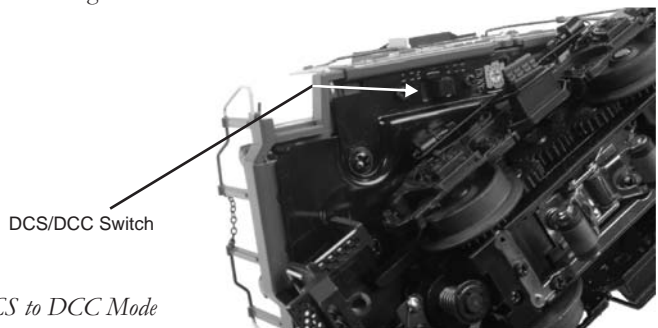

Figure 4: Changing from DCS to DCC Mode
****NOTE: You'll need to have the DCC/DCS switch set correctly if your using one of those two modes. It is depicted below in Figure 4.**